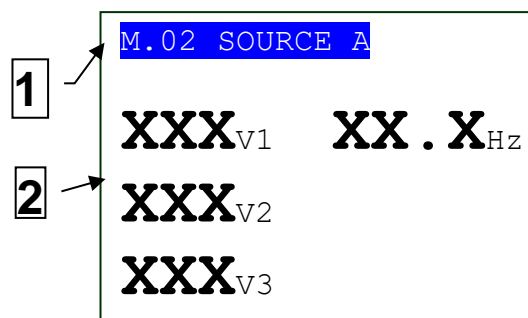

Fig. 3 – Display areas
5.4.4 Display area layout (ref. to fig. 3)